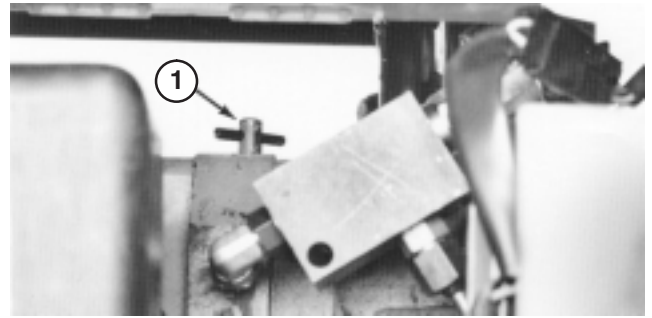

Figure 11
1. Reach in and rotate bypass valve on transmission (Fig. 11) counterclockwise 1/2 to 1 turn. Opening the valve opens an internal passage in the pump, thereby